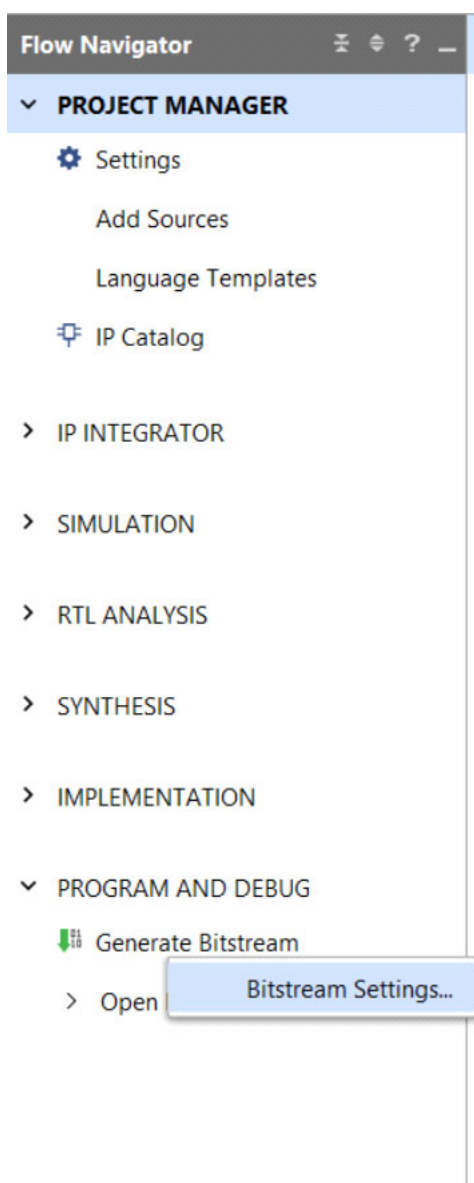

Figure 8: Flow Navigator
The Vivado IDE automatically sets the configuration properties in the design constraints (XDC) file, based on selections made in the Device Properties dialog, shown in Figure 8. Alternatively, the following Tcl commands can be manually added to the XDC file:
2. In the Flow Navigator, locate the Program and Debug tab and left click the Bitstream Settings button as shown in Figure 8.